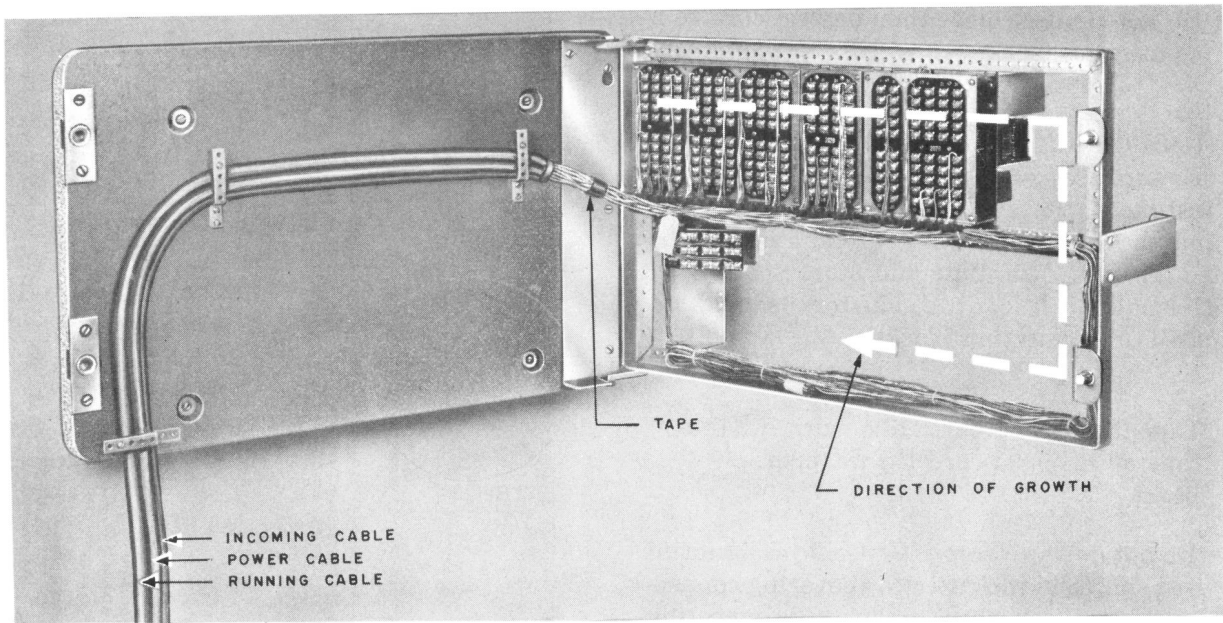
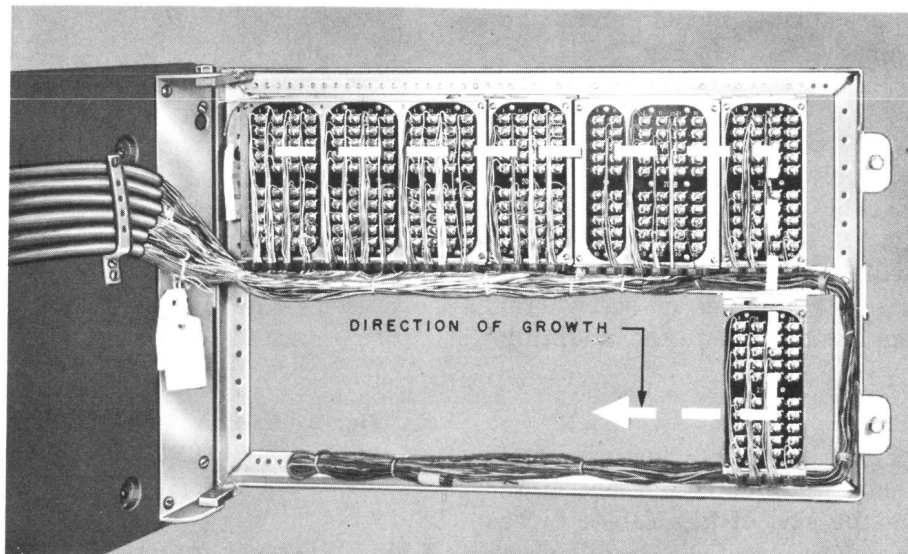

Fig. 9 — Installation of Running, Power, and Incoming Cables
Fig. 10 — Key Cables Run Directly to Apparatus Mounting
4.13 Fig. 9 shows an installation using a running cable. Fig. 10 shows key cables run directly into the apparatus mounting.